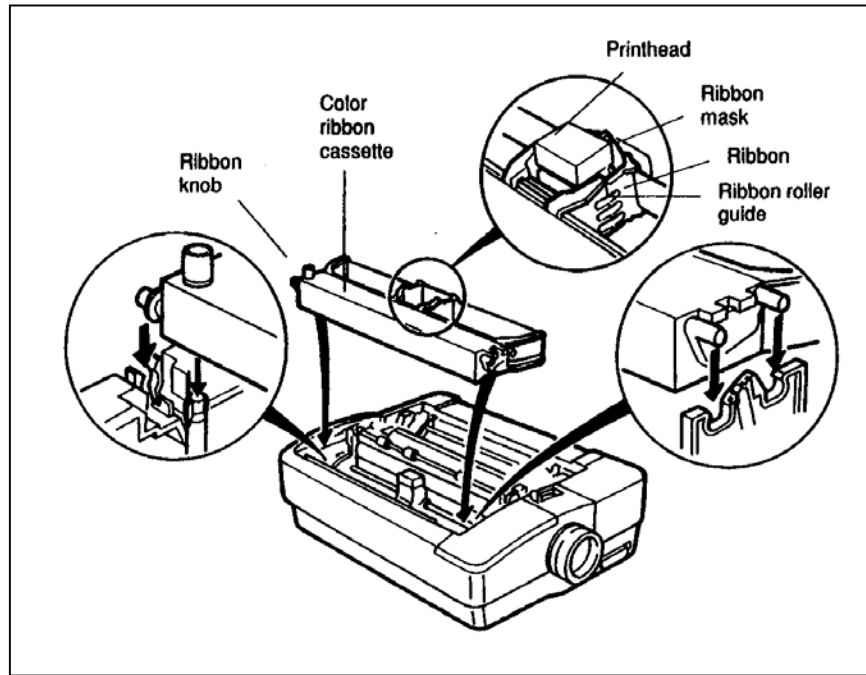

Figure A-4. Installing the color ribbon cassette
6. Slide the ribbon roller guide to the center of the cassette. Position the color ribbon cassette so the ribbon roller guide is directly above the printhead. See Figure A-4.